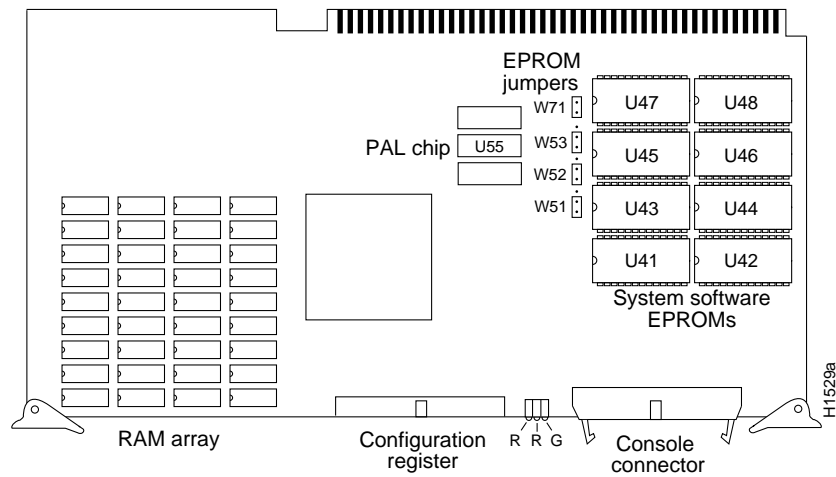

Figure 5-17 CSC/3 Processor Card—Component-Side View
- CSC/3 processor card, Figure 5-17